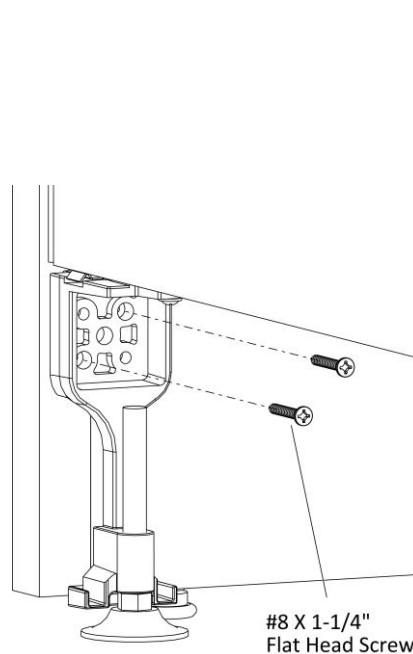

Figure 5
10. Drive two #8 X 1-1/4" Flat Head Screws through the holes in the standard panel leg into the pre-drilled holes of the gallery panel, (Figure 5).